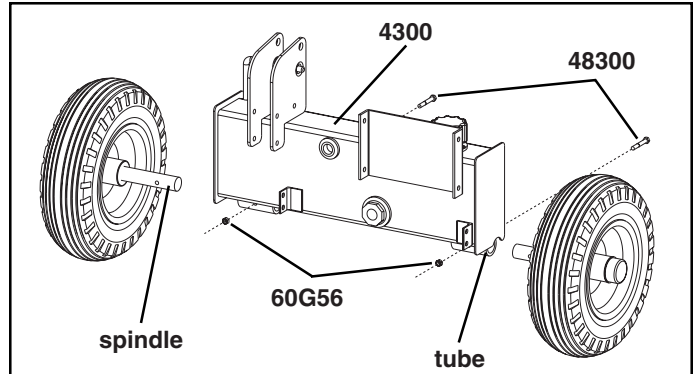

Figure 1
4. Attach the wheels to each side of the reservoir (4300) by sliding the end of the spindle into the tubes at the bottom of the reservoir. Make sure that the holes line up as you insert the spindle. Secure in place with two 5/16-18 x 2-1/4" bolts (48300) and two 5/16-18 bi-way locknuts (60G56). Place one bearing cover over the end of the hub and tap with rubber mallet until it is seated against the hub. **DO NOT STRIKE TOO HARD OR YOU WILL DAMAGE THE COVER.** Repeat for the other wheel. See Figure 1.